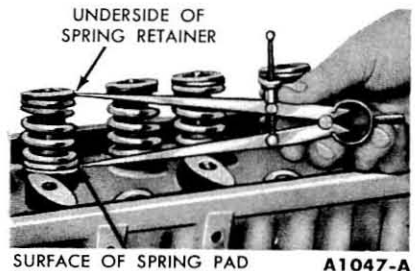

FIG. 20—Valve Spring Assembled Height
5. Measure the assembled height of the valve spring from the surface of the cylinder head spring pad to the underside of the spring retainer with dividers (Fig. 20).